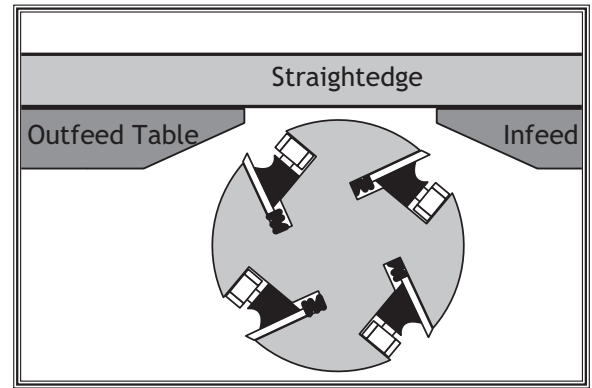

Figure 46. Infeed and outfeed tables set evenly.
3. Place the straightedge halfway across the infeed table and halfway over the outfeed table, and adjust the infeed table even with the outfeed table, as shown in **Figure 46**.
6. Place the straightedge halfway across the infeed table and halfway over the outfeed table, and adjust the infeed table even with the outfeed table, as shown in **Figure 46**.